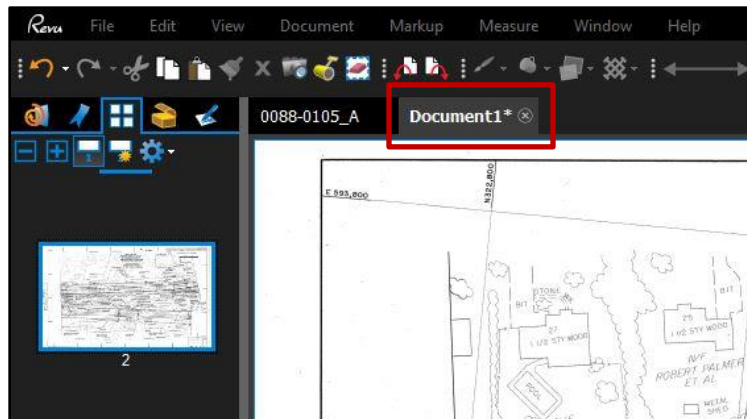

Figure 21. Document1 Tab in Bluebeam.
5. Go to the Document1 Tab (shown in Figure 21, below) and go to the thumbnail viewer and select "paste pages". Right click the blank page and select "delete".